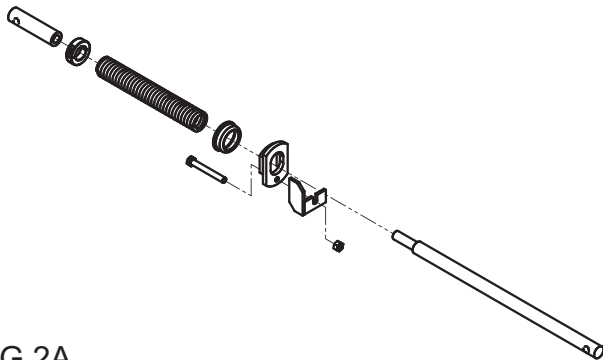
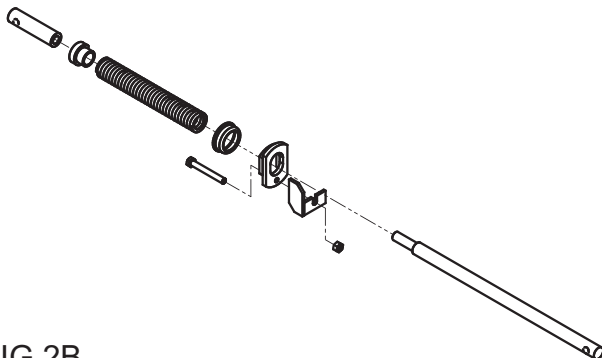

FIG 2A
FIG 2B
- J. For 52" deck, slide 1" clamp collar found in bolt bag onto caster rod. Tighten clamp collar down on the very end of caster rod. If more spring tension is needed after complete installation of foot lift kit, the location of the 1" clamp collar may be adjusted accordingly to create more spring tension on caster rod assembly. Refer to Fig. 2A for complete stack up of caster rod assembly. For 61" deck, slide bushing w/ zerk onto caster rod with the narrow end sliding into the foot lift spring. The grease zerk may be removed from the bushing. Fig. 2B shows the complete stack up of the caster rod assembly.